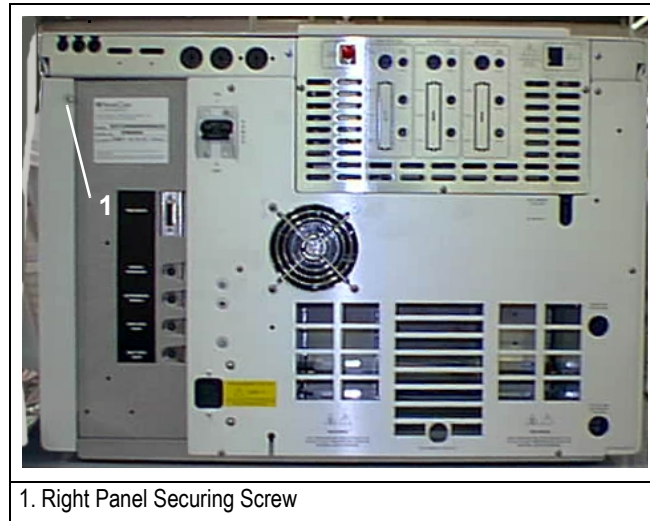

Figure B-3. TRACE GC 2000 Rear Panel
1. Loosen and remove the screw that secures the right side panel to the right upper rear corner of the GC by using the 3-mm Allen wrench. Refer to Figure B-3.